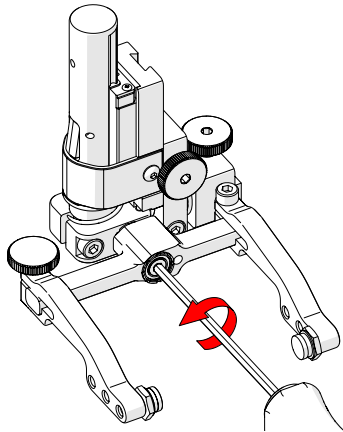

Fig. 119 - Unscrew yoke pivot screw
2. Using the supplied 3 mm hex driver (Fig. 38), unscrew the yoke pivot screw and remove the yoke (Fig. 119).